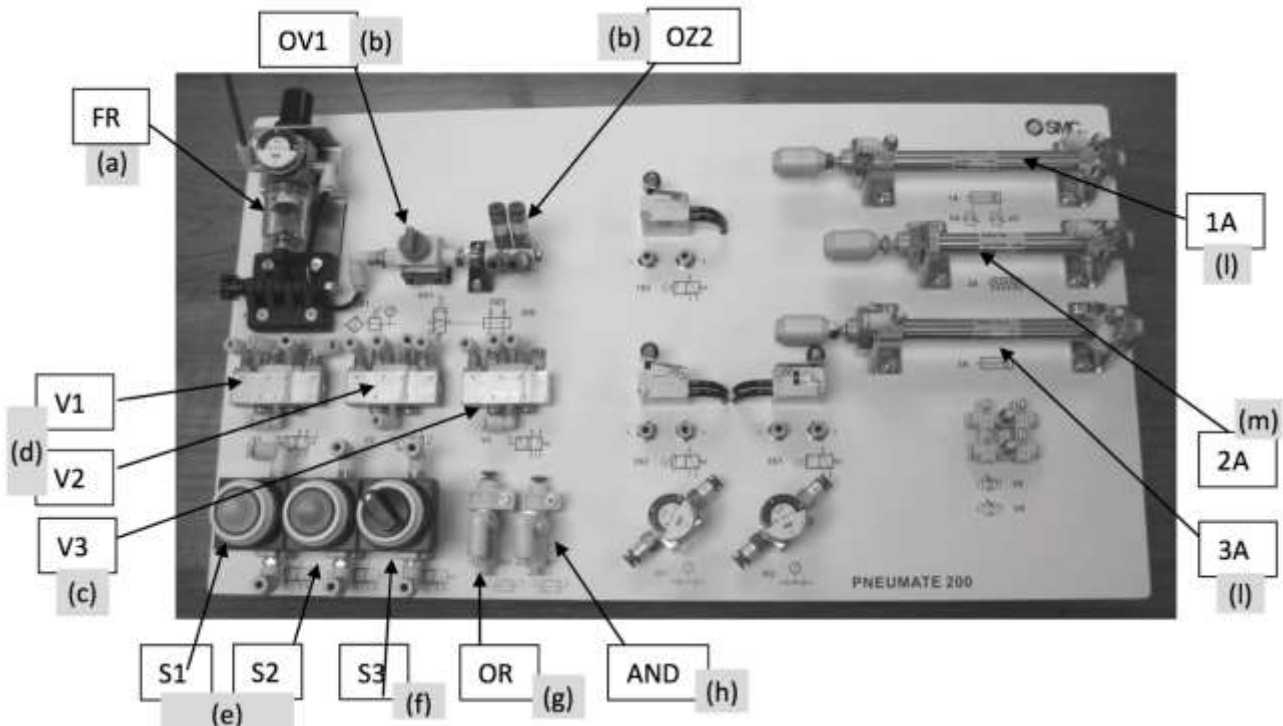
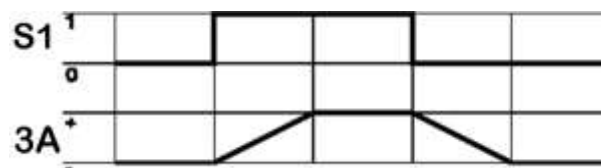
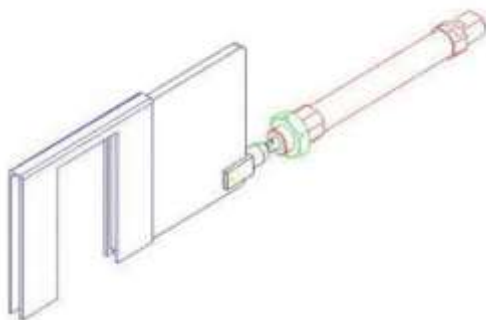
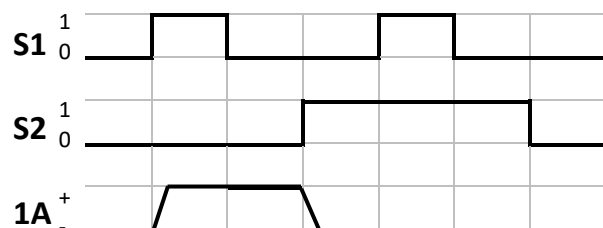

Figure 1. The "Pneumate 200" Basic Pneumatic Trainer.
Figure 3. Phase Diagram for Exercise 2. [1]
Figure 4. Sliding door [1].
Figure 5. Phase Diagram for Exercise 3 [1].
2. A “Pneumate 200” Basic Pneumatic Trainer assembly panel (shown in Figure 1) supplied by SMC Pneumatics (UK) Ltd comprising:
- a. Filter Regulator with Gauge (FR),
1. Ensure the compressed air supply is connected to the Filter Regulator (FR) (see (a) in Figure 1) on your “Pneumate 200” Basic Pneumatic Trainer board. Ensure the pressure gauge is reading about 2 bar (0.2 MPa) – **do not exceed this pressure**. Connect FR output to switch OV1 (see (b) in Figure 1) with a short length of pipe (4mm in diameter).
- iv. The assembly panel comprises three manually operated 3/2 way NC valves hereinafter called switches S1, S2 and S3 (see Figure 1), three 5/2 valves V1, V2 and V3 (see Figure 1), three pneumatic cylinders 1A, 2A and 3A (see Figure 1) and two logic valves AND and OR (see Figure 1).
Using a 3/2 way valve (S1 in Figure 1), control a single acting cylinder (2A in Figure 1) so that when S1 is pressed the cylinder extends and when the S1 is released the cylinder retracts to its starting position (shown as 2A in Figure 2).
Use a 3/2-way valve (S1 in Figure 1) to operate a 5/2-way valve with pneumatic opening and spring return (V3 in Figure 1) to control the opening and closing of a double acting cylinder (3A in Figure 1) to achieve the phase diagram shown in Figure 3, where S1 is the operation of the switch (3/2 way valve) and 3A the action of the double acting cylinder.
This is to create a system that represents the control of an automated sliding door. The cylinder 1A (see Figure 1) should extend (and as such close the door) when switch S1 (see Figure 1) is pressed and retract (open the door) when switch S2 (see Figure 1) is pressed. If one switch is held down, pressing the other should have no effect. The assembly is shown in Figure 4 and the phase diagram in Figure 5.